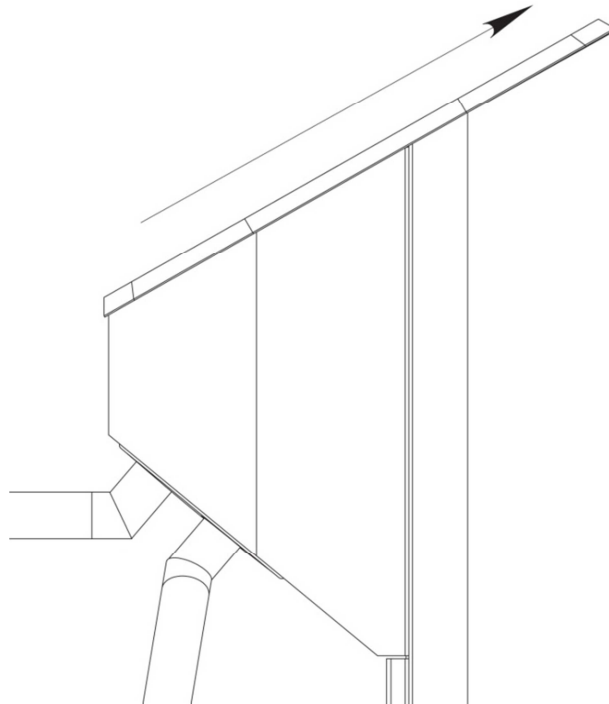

Fig. 4
- slide the LED panel to the direction indicated in Fig. 4, and lift it up;